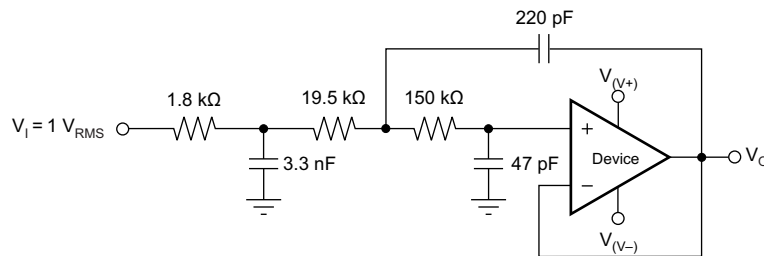

图 37. OPAx355 Configured as a Three-Pole, 20-kHz, Sallen-Key Filter
3. Using a noninverting filter topology, such as the Sallen-Key (see 图 37).